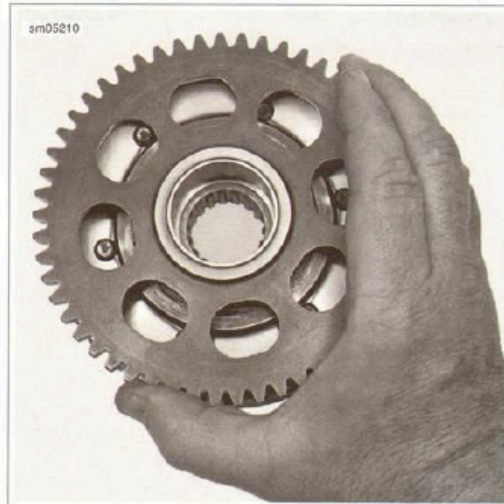

Figure 7-37. Rotate Starter Gear to Fit Sprag Clutch
4. See Figure 7-37. Fit starter gear to sprag clutch and rotate slightly until starter gear hub drops into sprag clutch.